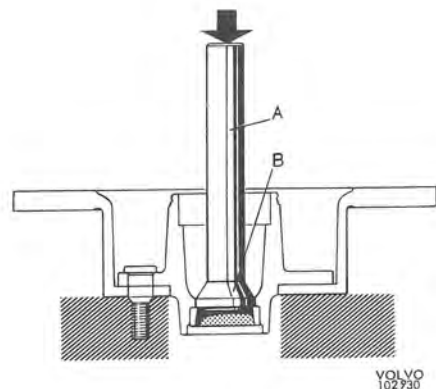

Fig. 7-23. Removing outer bearing ring
5. Remove the bearing rings. Use drift 2724 (Fig. 7-22) for the inner bearing ring and drift 2725 (Fig. 7-23) for the outer bearing ring together with standard handle 1801.